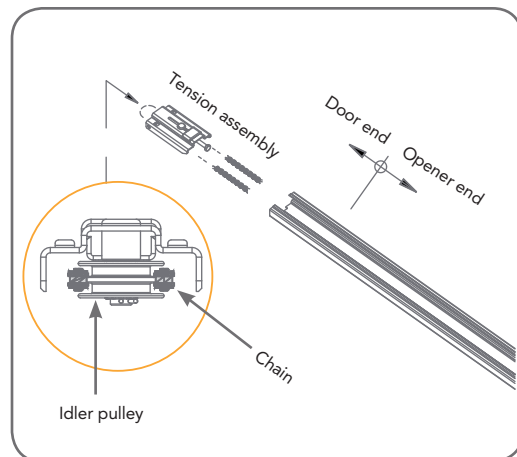

fig 04
- Loop the chain onto the pulley of tension chain assembly. Slide the tension chain assembly with chain into the track (Fig. 04).